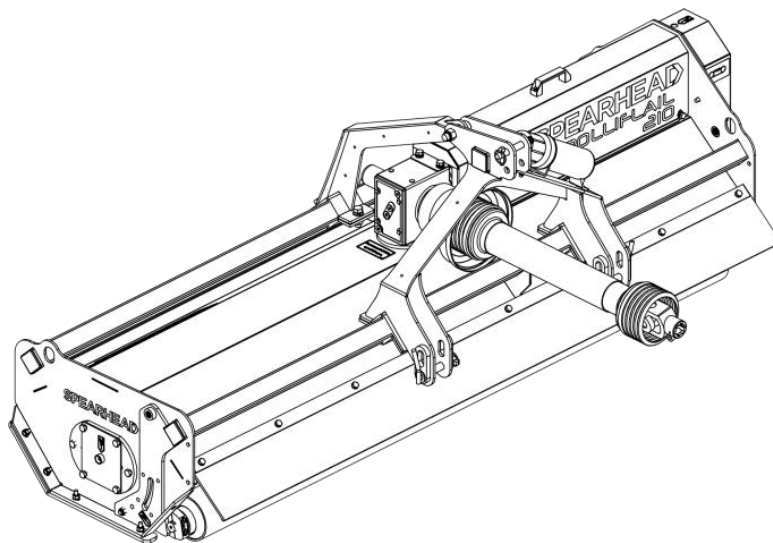

Figure 1.9
- 1.5.1.15 The machine is now ready for front mounting, see Figure 1.9.